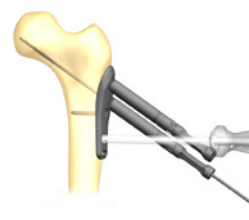

Figure 6e
- Insert a 3.5mm x 18mm PF Pin or a PERI-LOC[®] 4.5mm Screw through a shaft screw hole (Figure 6e).